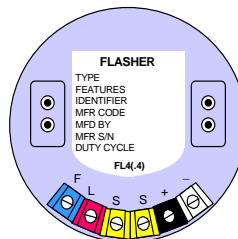

Figure 4-1
- b. Flashers (Figure 4-1) are used to regulate battery voltage to the lamp, sense lamp failure, provide a flash rhythm and turn off the light during the daytime. Flashers are available in four versions: the CG-181, CG-493, CG-481 and CG-504. The CG-181 and 493 will operate lamps 3.05 amps or less (35 watt tungsten-halogen lamp included). The CG-481 is used to operate lamps 50 watts and greater. The CG-504 will operate all lamps. Flashers are available in standard and non-standard flash rhythms. Standard rhythms are stocked at the Engineering Logistics Center (ELC) Baltimore. Non-standard rhythms and slave flashers must be purchased from the manufacturer. **NOTE:** the proper rhythm must be used. Installing a FL 2.5(1) when a FL 2.5(.3) is required will result in a power system failure.